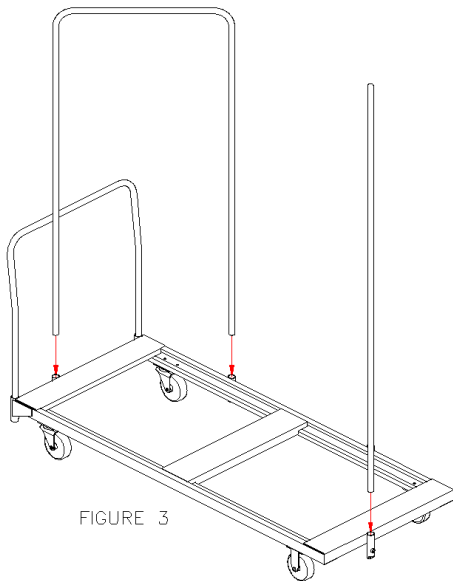

FIGURE 3
4. Insert the Stack Guides into the sockets on the sides and ends of the Base (See Figure 3).